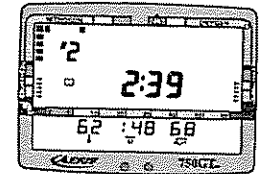

Fig. 75 - Log (third screen)
6. Press the Advance/Left button once more to view the information associated with nitrogen (Fig. 75). Displayed will be: Log Mode icon, dive Number, Surface Time between that dive and the one previous to it, lowest water Temperature during the dive, Elapsed Dive Time, and Maximum Depth.